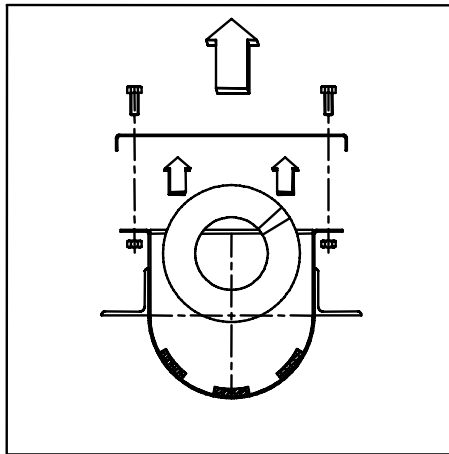

Figure 5.2h - Taking off the Cover, Removing the Spiral
3. Remove the spiral from the trough or lift it to increase accessibility (fig 5.2h).